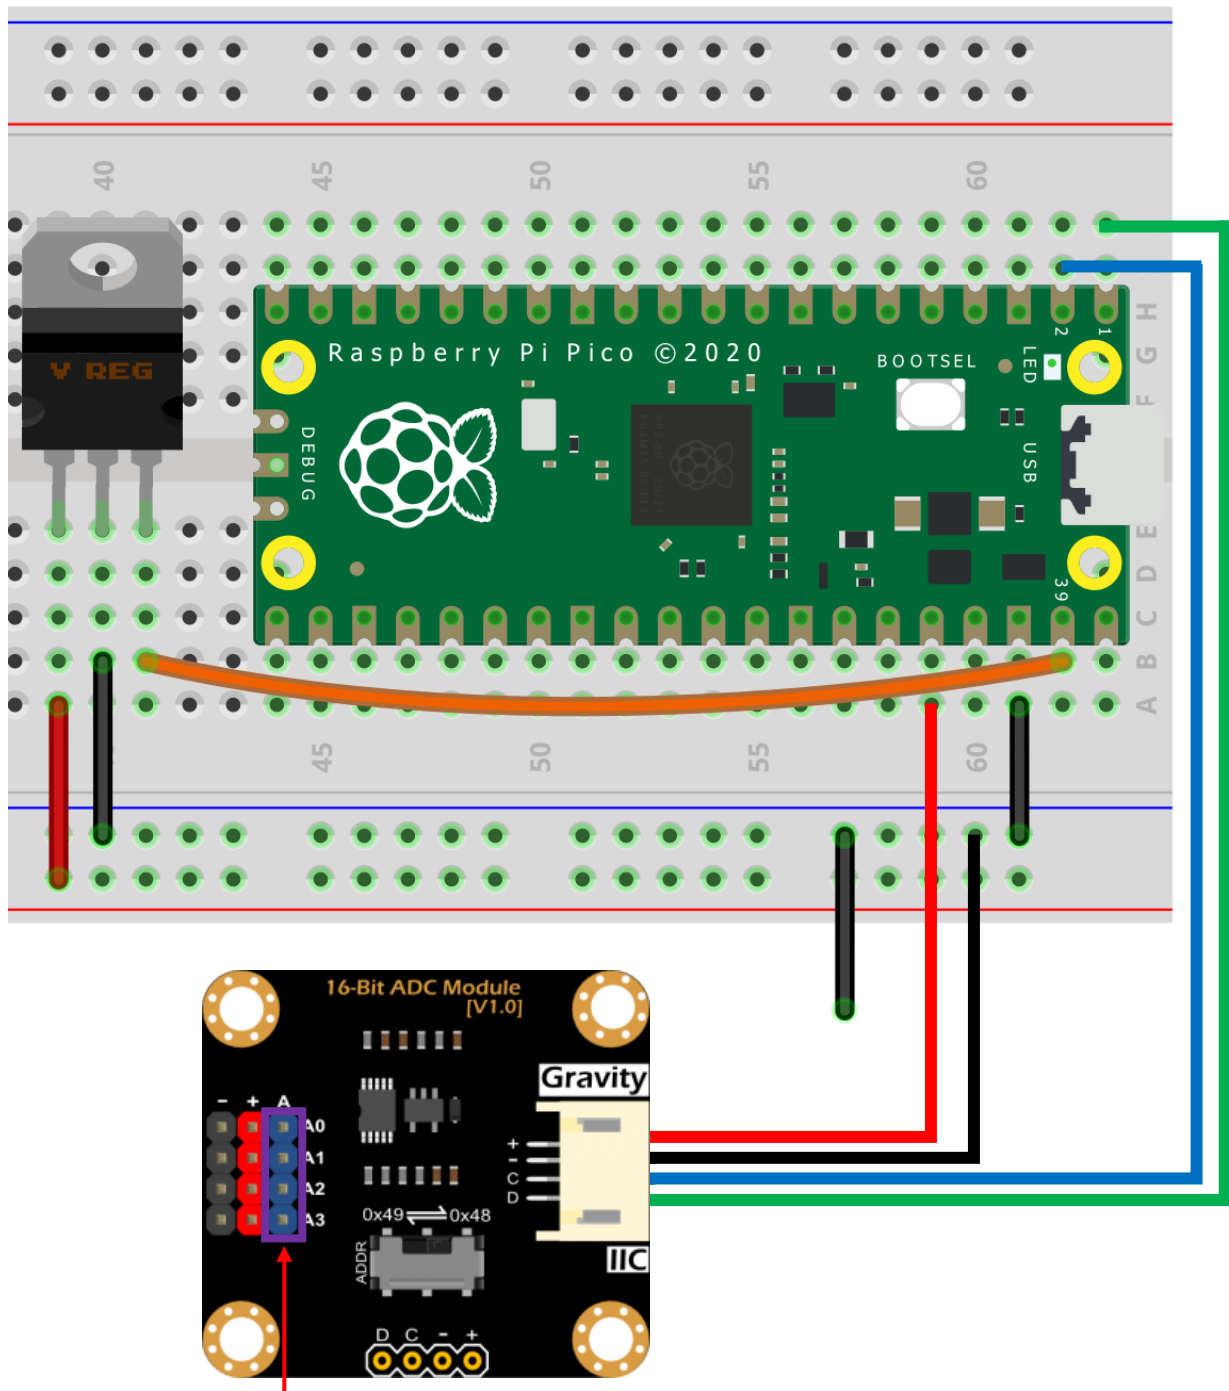

fig. 4
- Connect the **Red, Black, Green, and Blue** wires from the analogue-to-digital converter (ADC) as shown below (fig. 4).